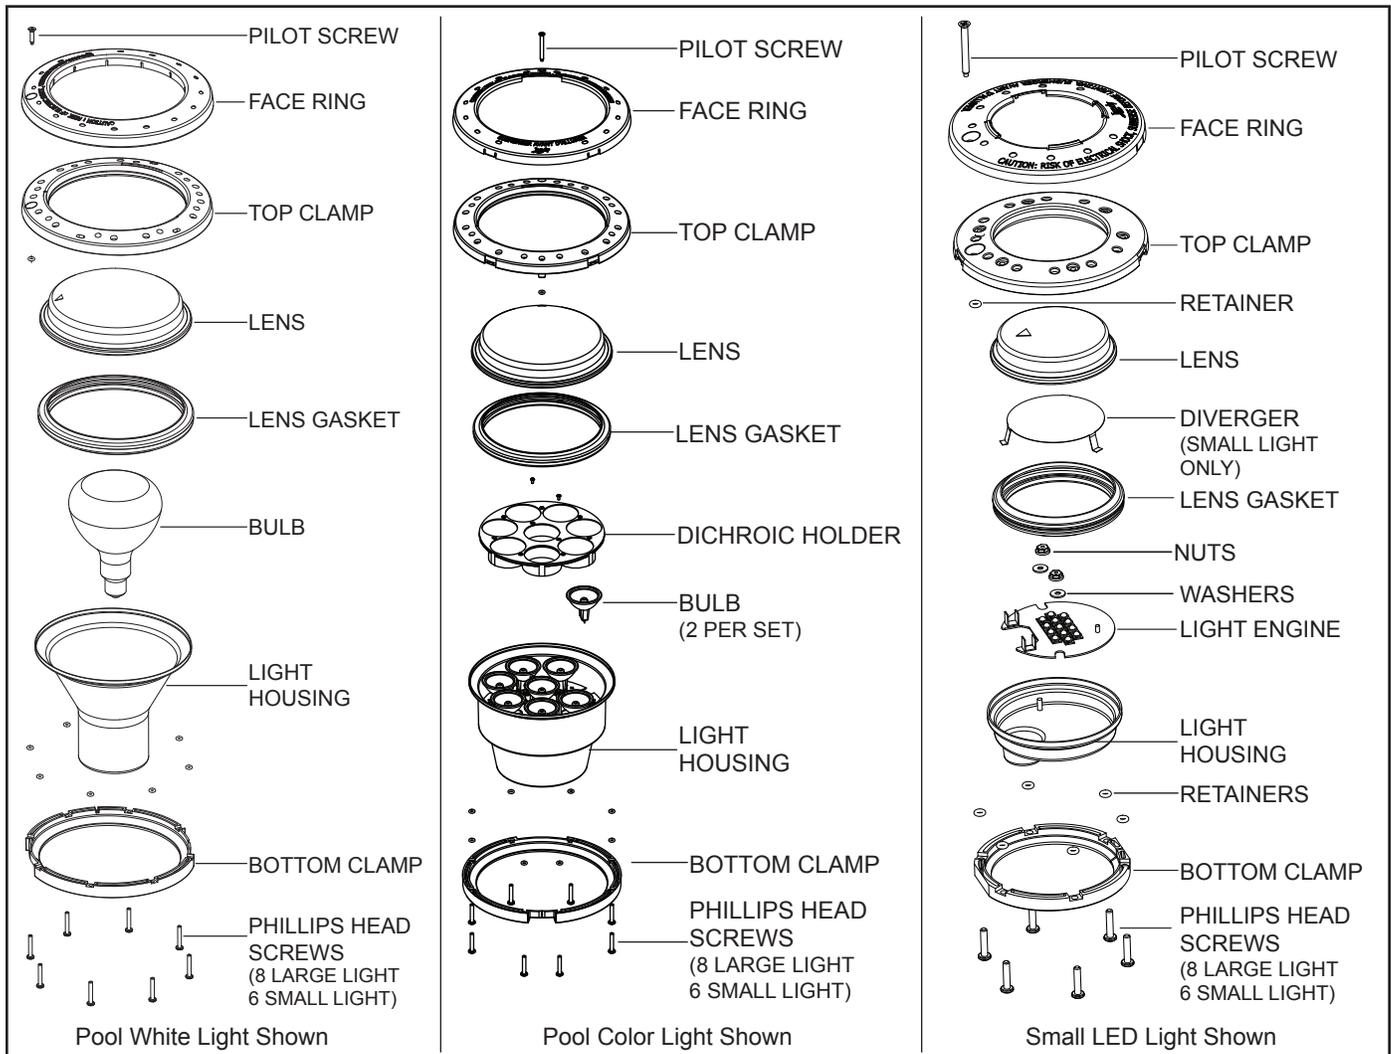

Figure 2. Light Assemblies Exploded Views
Before starting the procedure, use Figure 2 for the white light, color light, and color LED light, and the part lists at the back of these instructions to identify the parts that are in your kit. If any parts are missing from the kit, please call your local Jandy distributor for assistance. For technical assistance, please contact our Technical Service Department at (707) 776-8200, extension 260.
Depending upon which part you are replacing, you may not need to follow all of the steps to the end of the procedure. For example, if you are replacing the lens, you need only proceed as far as the step to remove the lens. See Figure 2 for parts identification.